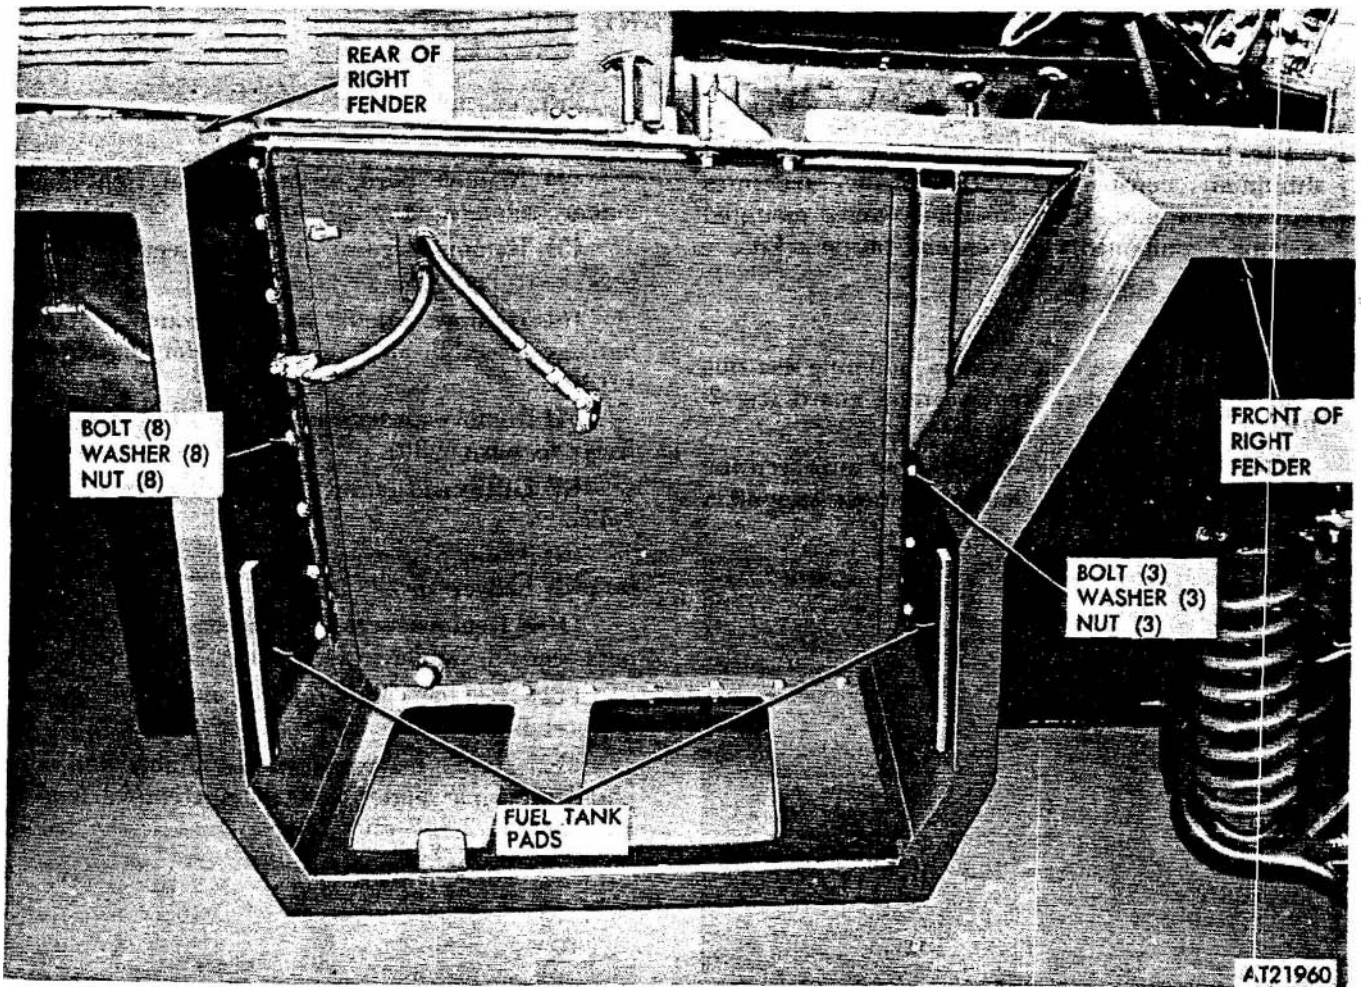

Figure 2-308. Tractor fender (center right view), removal and installation.
(1) Remove fuel tank pads if damaged or loose (fig 2-308).